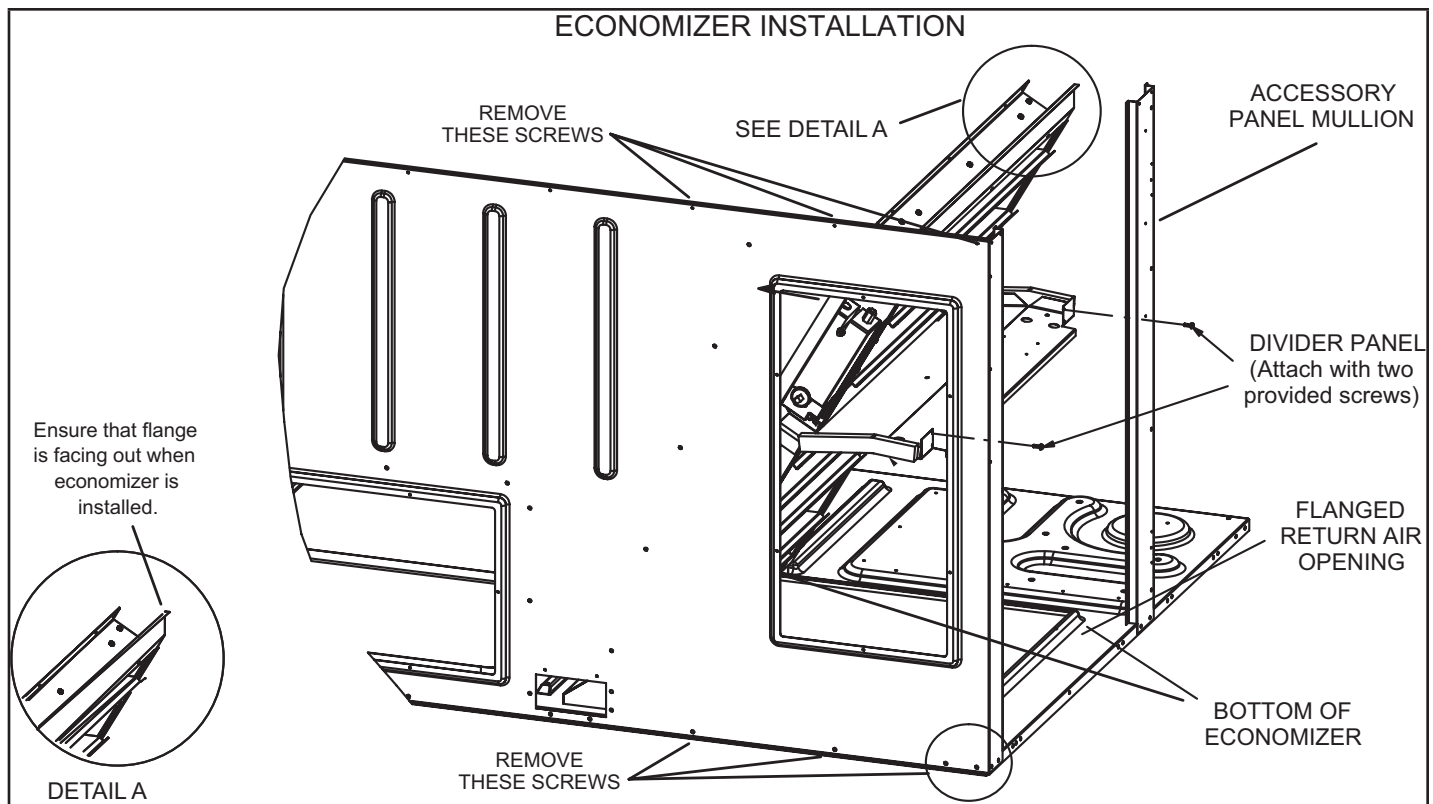

FIGURE 1
- 3 - Remove and retain screws from top and bottom of rear panel. Lift the top of the unit as needed. See FIGURE 1.
- 4 - Slide the bottom of the economizer over the flanged return air opening in the base of the unit until it settles into place. See FIGURE 1.
- 5 - Use provided screws to secure economizer divider panel to unit end mullion and accessory compartment mullion as shown in FIGURE 1.